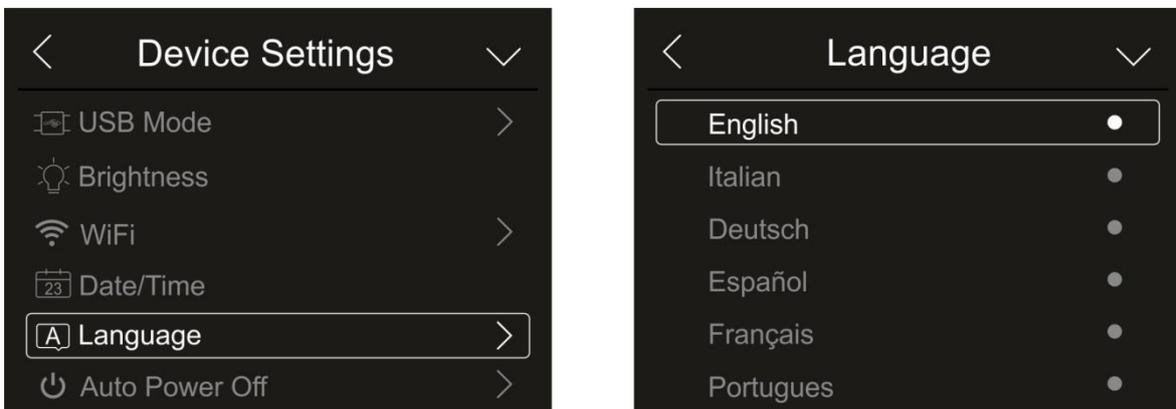

Fig. 17: System language setting
1. Touch the item “Language” to set the system's Language. The screen in Fig. 17 – right side appears on the display: